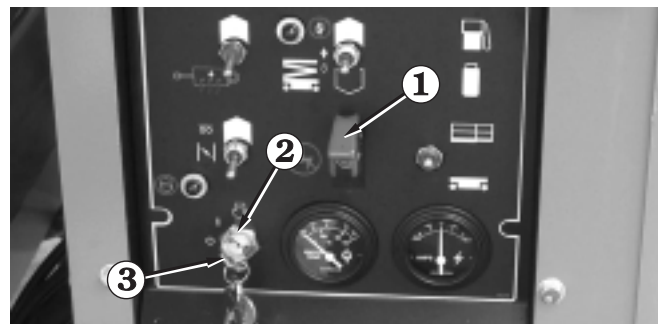

Figure 10.7
1. Push the **Emergency Stop** switch ❶ down (OFF) and set the **Main Power** switch ❷ to OFF then remove the key ❸ (see Figure 10.7).